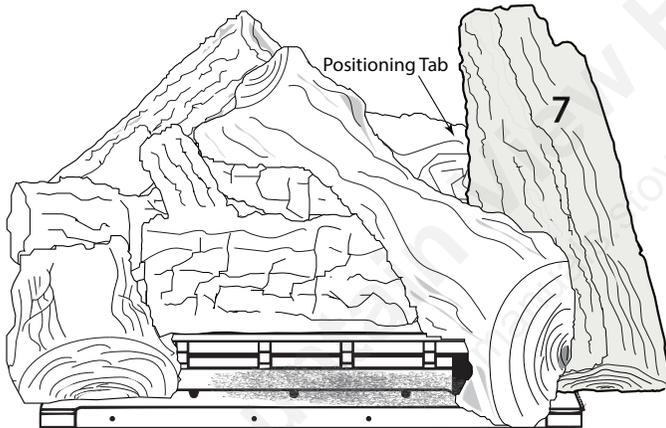

Figure 5.26 - Log #7 Placement
- Place Log #7 on the lower right side of the burner. Log #7 should rest on the front edge of the burner and the lower left side should contact Log #5. The upper left side of Log #7 should sit flush against the positioning tab on Log #2. See Figure 5.26.